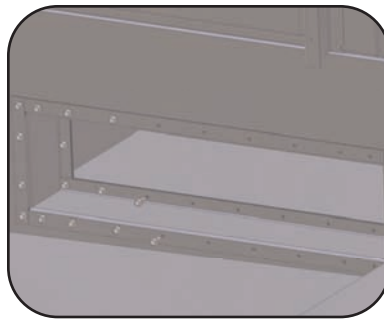

Figure 9
4. Using drift pins to align the bolt holes, place the flume box over the opening in the basin of Cell #1 and fasten into place. Insert the 3/8" self-tapping screws or bolts from the flume box into the basin wall as illustrated in (Figure 9) .
8. As illustrated in (Figure 9 and 10), insert 3/8" self-tapping screws in each hole from the flume box into the basin wall and tighten.